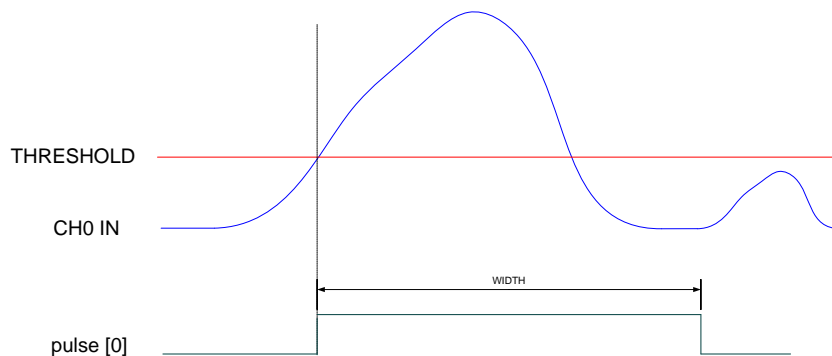

Fig. 8.15: Channel pulse signal
- a pulse of configurable width (see Fig. 8.15); the width parameter can be set at register address 0x1n70.